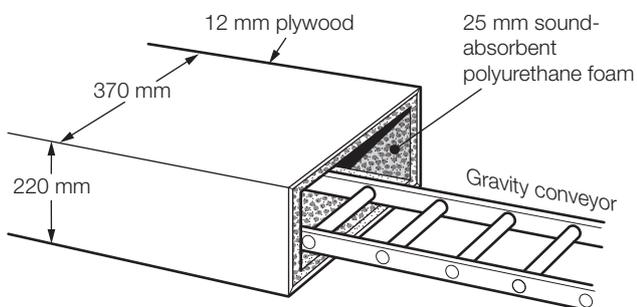

Figure 4 Noise reducing tunnel
- vibration is reduced by fitting damping techniques where it is possible to do so. Feed attachments such as sound absorbing tunnels (see Figure 4) can reduce in-feed noise levels by 5 dB.